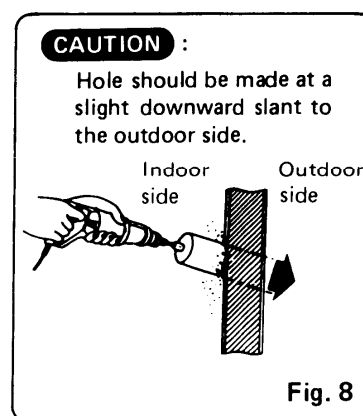

Fig. 8
d) If tubing and wire are to go directly out back of unit, make holes on the wall. Fig. 8